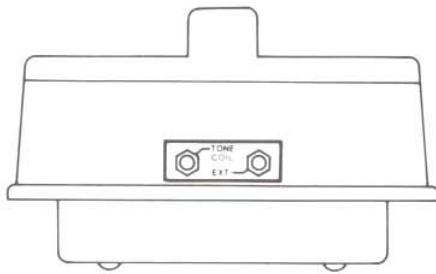

Fig. 7 — 500A/P Tone Coil and Ext. Jacks
- 6) The TONE COIL jack (Fig. 7) is an input connector for use in the AUDIO mode with an exploring coil for cable identification.
- 7) The EXT Jack (Fig. 7) is a signal input jack for use with the Dyna-Coupler. This jack is energized with the RECEIVER mode switch in EXT mode.